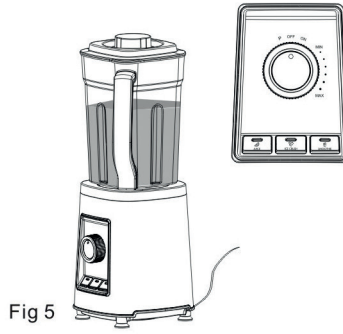

Fig 5
- Turn the function selector (14) to ON and select the required program or optional variable setting. The mixing process starts. Fig 5.
- Place the vacuum pump (8) on the vacuum lid (2) and make sure that it is firmly in place. Make sure that the silicone valve on the vacuum lid is closed. Press the button on the vacuum pump to start the vacuum process. Fig 5. The pump automatically switches off once the process is complete. Remove the vacuum pump (8) afterwards.